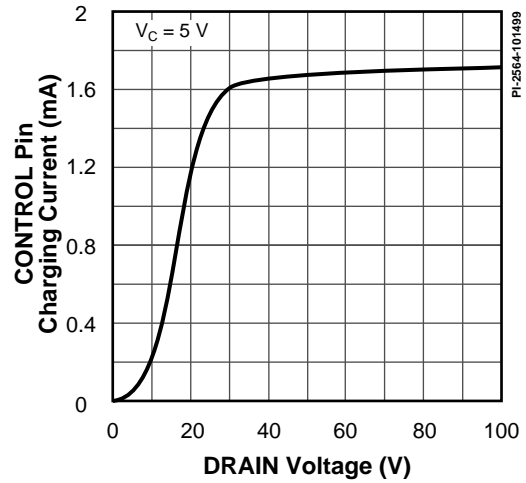

Figure 67. I_c vs. DRAIN Voltage.
- E. It is possible to start up and operate *TOPSwitch-GX* at DRAIN voltages well below 36 V. However, the CONTROL pin charging current is reduced, which affects start-up time, auto-restart frequency, and auto-restart duty cycle. Refer to Figure 67, the characteristic graph on CONTROL pin charge current (I_C) vs. DRAIN voltage for low voltage operation characteristics.